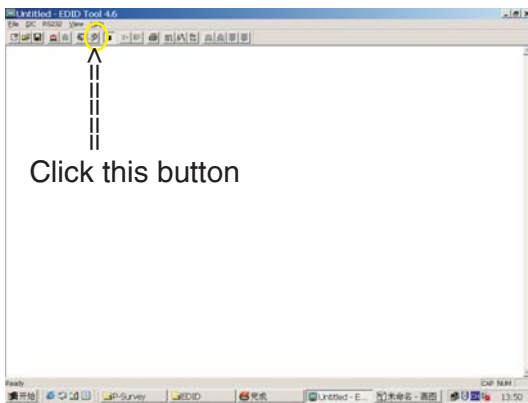
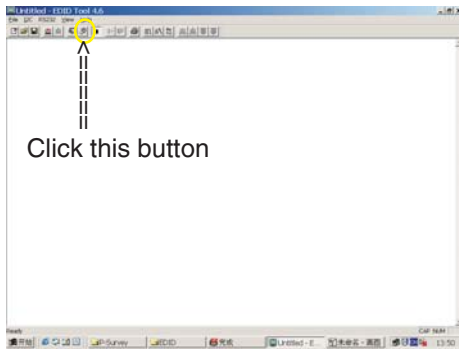

Fig. 11
Fig. 32
1. Click icon as shown in Fig. 11 from the tool bar to bring up the Channels "Configuration Setup" windows as shown in Fig. 11.
1. Click icon as shown in Fig. 11 from the tool bar to bring up the Channels "Configuration Setup" windows as shown in Fig. 32.